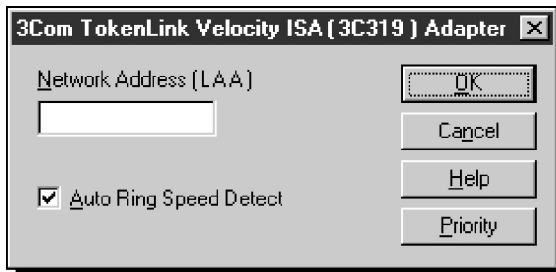

Figure 7-5 3Com TokenLink Velocity ISA Adapter Dialog Box
The 3Com TokenLink Velocity ISA (3C319) Adapter dialog box appears, as shown in Figure 7-5.
The 3Com TokenLink Velocity ISA (3C319) Adapter dialog box (Figure 7-5) lets you disable or enable auto ring speed detection.
- 1 In the 3Com TokenLink Velocity ISA (3C319) Adapter dialog box (Figure 7-5), click the marked Auto Ring Speed Detect check box to clear it.**
The 3Com TokenLink Velocity ISA (3C319) Adapter dialog box (Figure 7-5) lets you manually set a locally administered address (LAA). In most cases, you use a preset NIC address and leave this field blank. Check with your network administrator before using this feature.
- 1 With the 3Com TokenLink Velocity ISA (3C319) Adapter dialog box displayed (Figure 7-5), type a valid 12-digit address in the *Network Address (LAA)* field.**